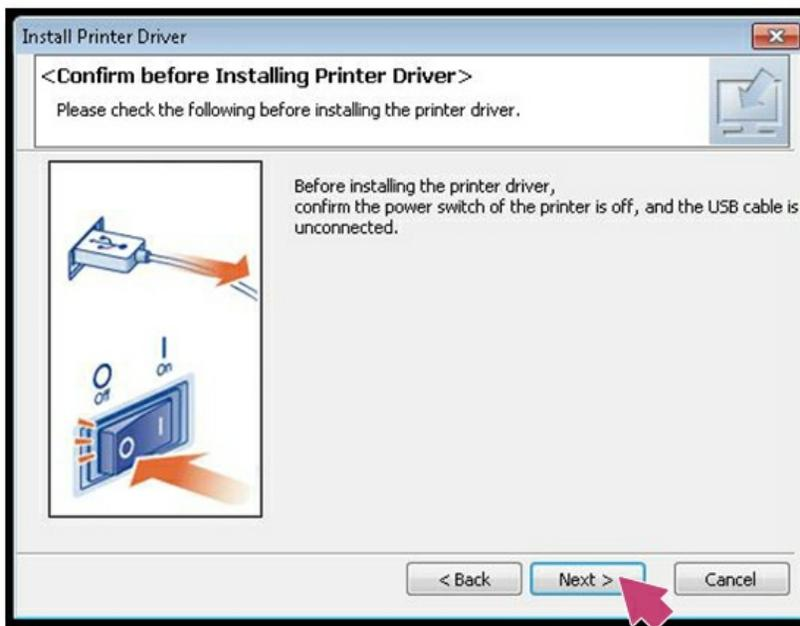

FIGURE 13
13. Ensure your printer is powered **OFF** and the USB cord is **unplugged** from the computer and click **Next** to continue. See Figure 13.